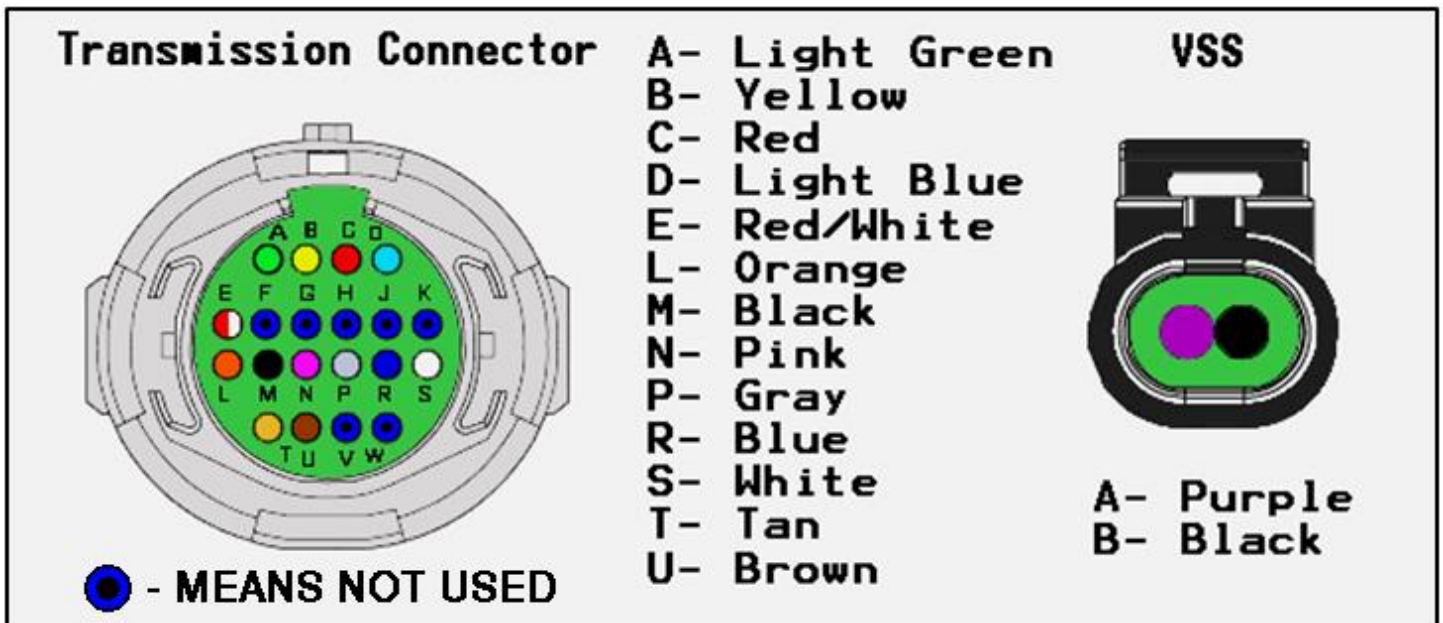

Figure 1 – Transmission Harness Connections on Transmission
1. Start by removing the system from the box and carefully laying it across a workbench or table. Take notice of the loomed transmission harness which contains the round transmission connector and vehicle speed sensor connector. These are the only two connections needed for both 4L60E (65E) or a 4L80E (85E) transmissions. **This system does NOT require the use of the input shaft speed sensors on the 4L65E or the 4L80E/85E transmissions.** See Figure 1, page 7, for the pin out of required connections.